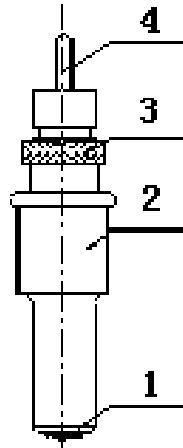

Figure 2-3
- ① Three blades are included in the machine. They are Roland compatible. Diameter is 2mm.
② Install the blade as (Figure 2-3).